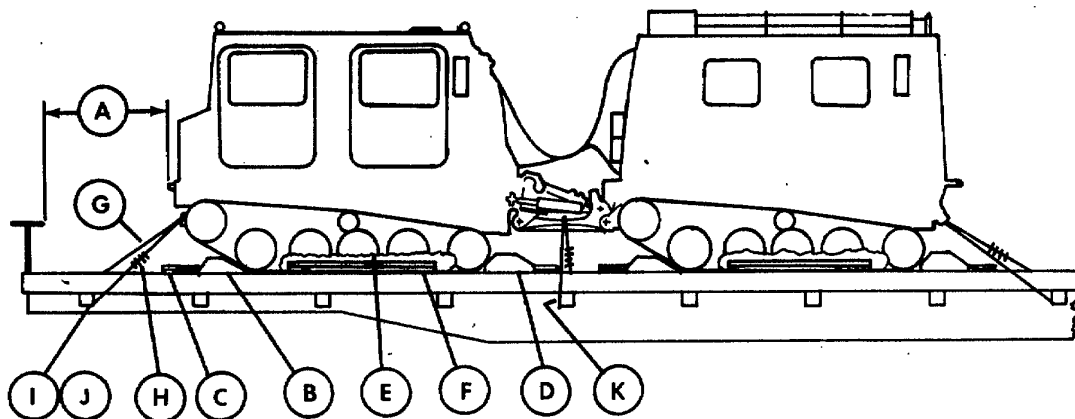

Figure 7-1. Side elevation, tiedown of the M973 on a general purpose flatcar.
b. The load illustrated in figure 7-1 and 7-2 is based on a flatcar of 8 feet or more. Figure 7-3 shows the M973 blocking and tiedown details. Table 7-1 is a bill of materials, and table 7-2 is the application of materials for securing the M973 on general purpose flatcars.
Table 7-1. Bill of Materials for Blocking and Tiedown of the M973 on a CONUS General Purpose Flatcar (Figs 7-1, 7-2, and 7-3).
Table 7-2. Application of Materials for Blocking and Tiedown of the M973 on a General Purpose Flatcar (Figs 7-1, 7-2, and 7-3).